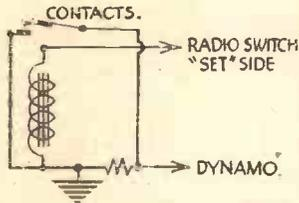

Fig. 1.—The idea outlined in this article for battery protection.
MOST commercial car radios draw from the accumulator about 5 amps. This is usually dealt with in one of two ways: (1) By leaving the carefully balanced charging rate of the dynamo alone, and running the risk of a flat battery, or (2) by adjusting the control brush to cover extra current required; this method may, however, have the unfortunate result of buckling the battery plates if the radio is not in constant use. A glance at Fig. 1 will